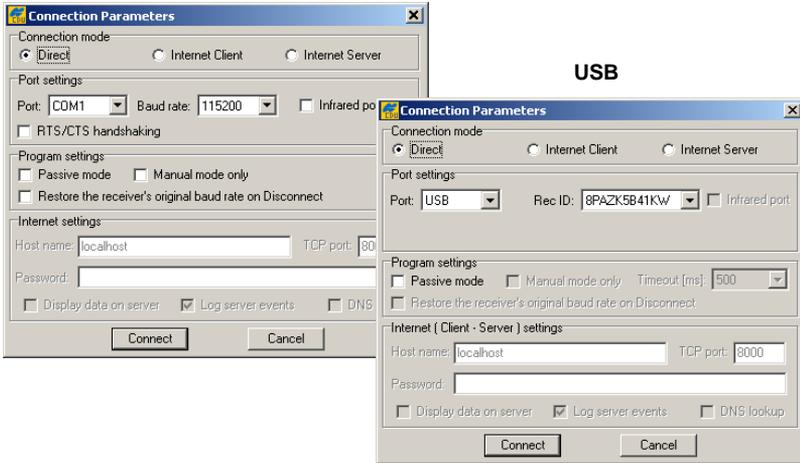

Figure 3-5. Connection Parameters
4. On the *Connection Parameters* dialog box, select the following parameters (Table 3-3) and click **Connect** (Figure 3-5).